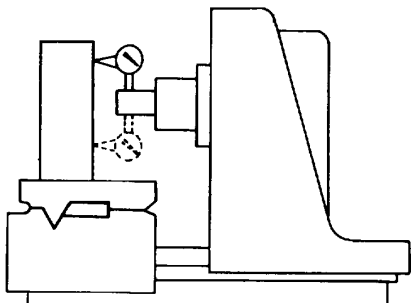

Fig. 2G. Top of table is square crosswise with sweep of spindle.
5. Replace the lower right screw (A) in the spindle front support.
6. Check the spindle alignment (Figs. 2G and 3G): Align the spindle to the machine, if necessary, by shifting the front support. Using a Precision Square or Toolmaker's Cylindrical Square, indicate from the spindle nose and align the spindle vertically and horizontally within .001" (.025 mm) in a 5" (127 mm) radius. For cross hatch slot grinding, the spindle needs closer alignment (within .0001).